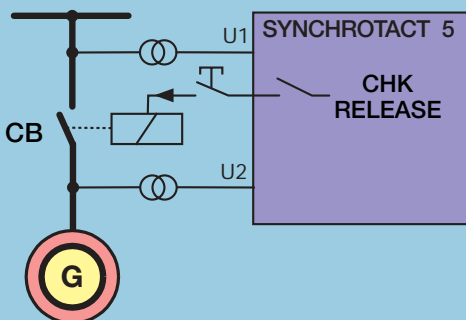

Fig. 3: Monitoring of manual paralleling (Synchrocheck)
3. Monitoring (Synchrocheck) of automatic or manual paralleling of power lines, generators and voltage-free lines (dead bus), see Fig. 3 below.